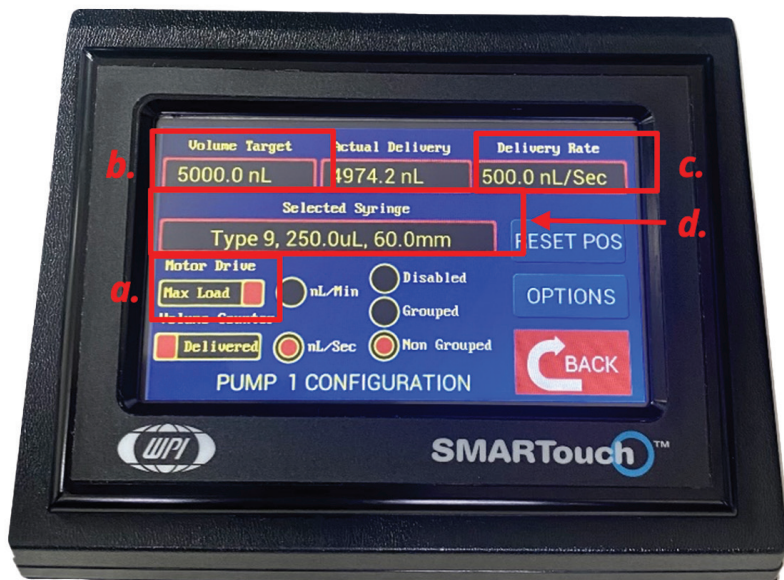

Fig. 7—MICRO2T Configuration Screen
2. On the Configuration screen (Fig. 7):